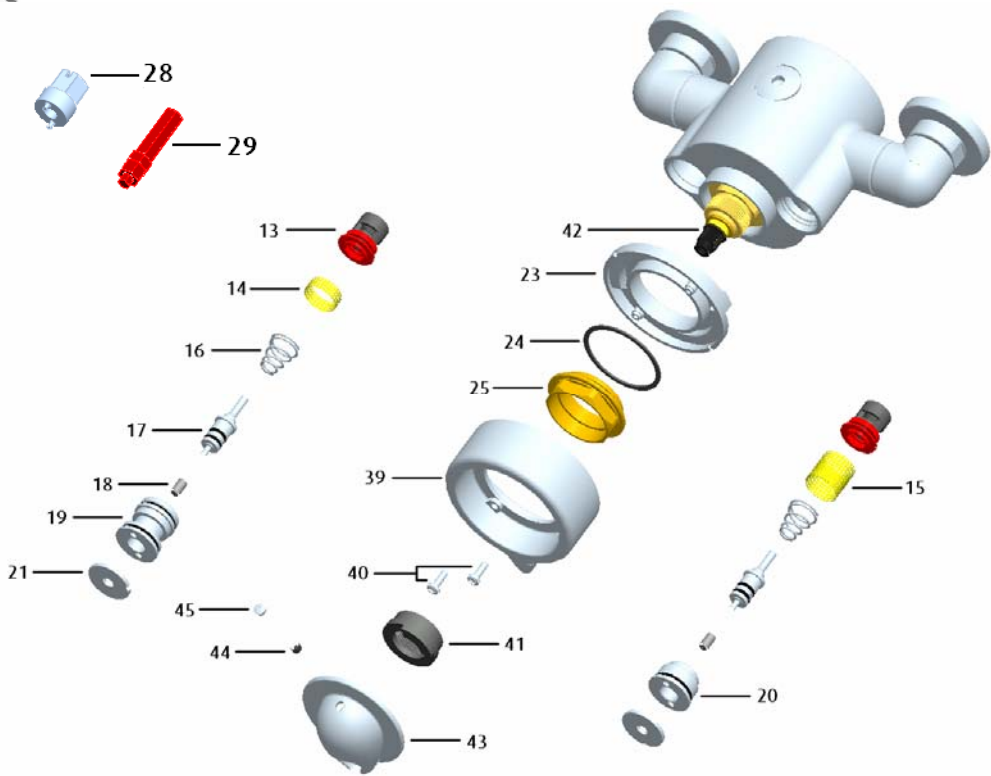

Fig. 6
8.6 Cleaning the Filters (See Fig. 6)
8.7 Flow Valve Maintenance (See Fig. 6)